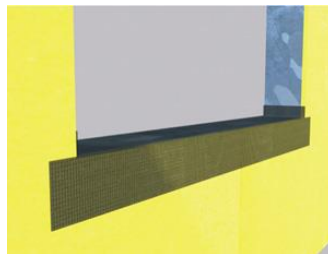

Figure 2
- 3) Immediately lay the AquaFlash Mesh into the wet material and brush smooth, adding additional material to completely embed the mesh – Figure 2.